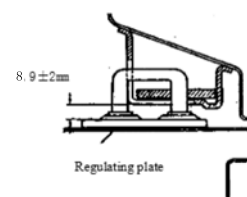

Fig. 4.2-4
2) In order to regulate the up-and-down interrelation of lock body and lock ring within the door, some regulating plates can be added under lock ring assembly to regulate according to the method in Fig. 4.2-4.